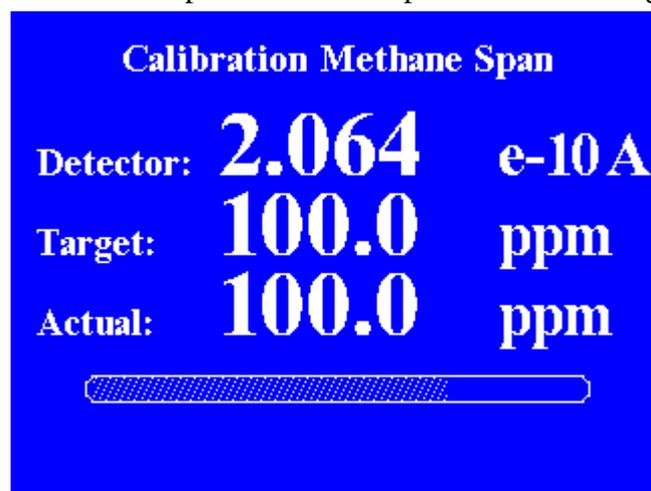

Figure 10. Auto calibration methane span screen
3. The Methane Calibration Zero screen will remain open for the length of the dwell time. At the end of the dwell time the zero point will be saved and the actual concentration value will automatically be adjusted. After the Zero point has been saved, Span gas is directed to the detector and the Methane Calibration Span screen will open as shown in Figure 10.